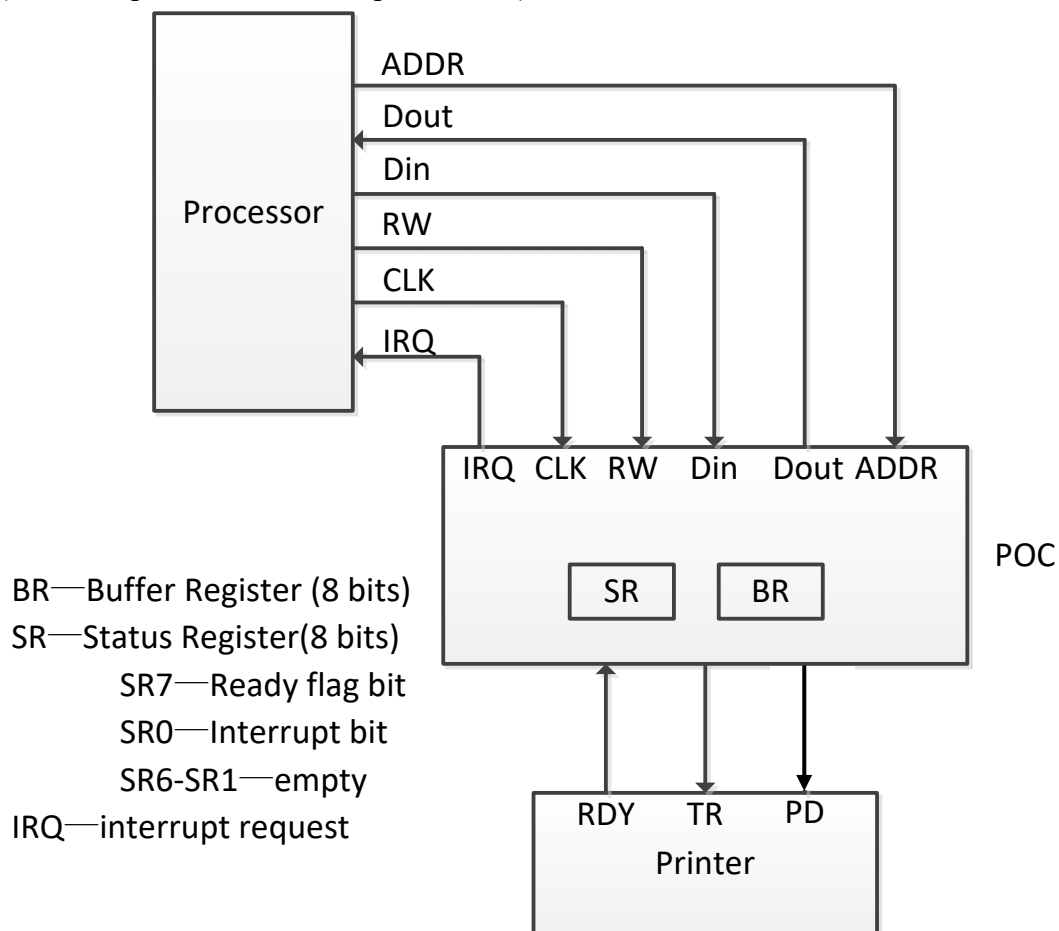
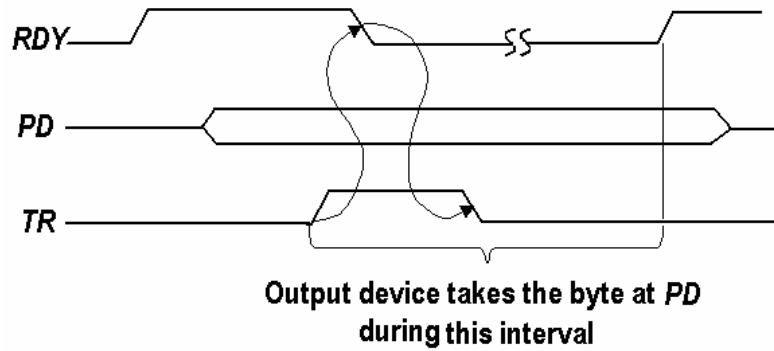

Figure 1 Printer Connection
Figure 2 The handshake timing diagram between POC and the printer
**Figure 1** shows the connecting of a printer to the system bus through the **POC**. The communication between **POC** and the printer is controlled by a “handshake” protocol illustrated in **Figure 2**.